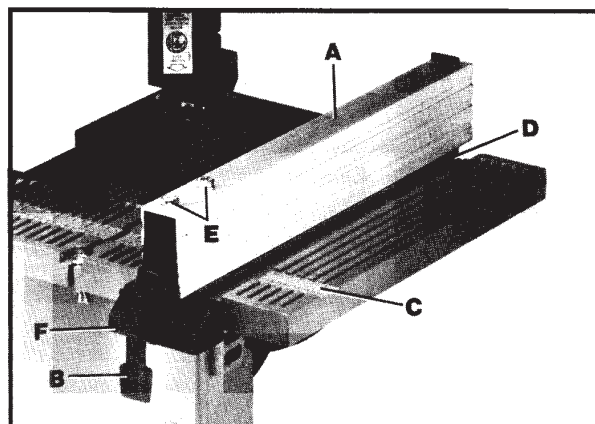

Fig. 25
The accessory rip fence (A) Fig. 25, can be moved along the table surface by lifting lock lever (B) and sliding the rip fence (A) to the desired location on the table. Push down on lever (B) to firmly lock rip fence in position on the table.
**NOTE:** A handy English/Metric scale (C) indicates the distance the fence is positioned from the saw blade.
For accurate work, the rip fence (A) Fig. 25, must be parallel to the miter gage slot (D). Move the rip fence (A) to the edge of the miter gage slot and check the alignment. If an adjustment is necessary:
1. Loosen two screws (E) Fig. 25, and raise locking lever (B).
2. While holding rip fence bracket (F) Fig. 25, firmly, move the far end of the fence (A) until it is parallel with the miter gage slot (D).
3. Tighten two screws (E) Fig. 25, and push down on locking lever (B).
4. Clamping action on the rip fence (A) Fig. 25, can be tightened or loosened by lifting locking lever (B) and rotating lever (B) clockwise or counterclockwise as necessary.